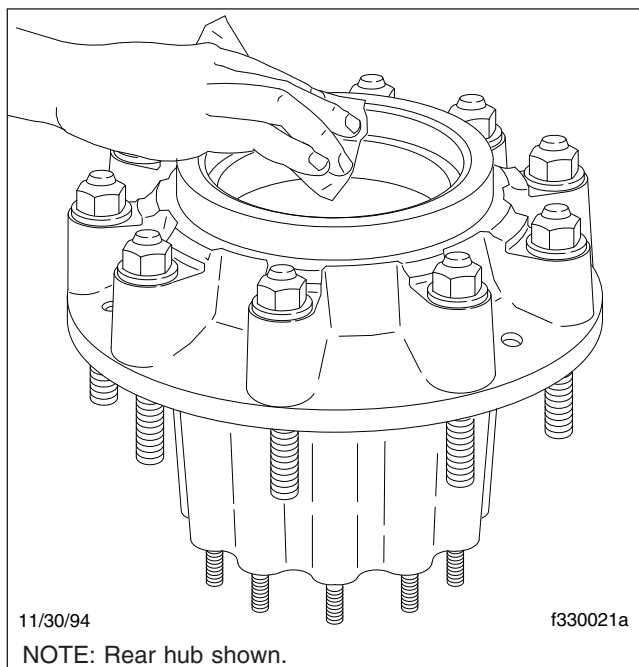

Fig. 1, Clean the Hub
4. Clean the spindle, spindle threads, seal bore, and the hub cavity. See Fig. 1 and Fig. 2.